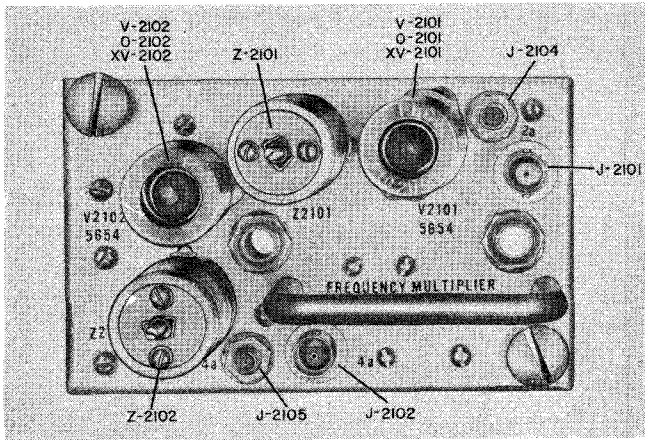

Figure 7-23. RFO, Unit 4 (Z-2103), Top View
(1) **ELECTRICAL ADJUSTMENTS.**—The four adjustments that may be made on unit 4 are the top and bottom slugs of Z-2101 and Z-2102 (figures 7-23 and 7-24).